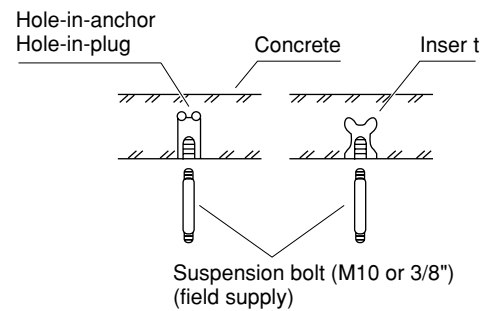

Fig. 3-115
- Insert suspension bolts as shown in Fig. 3-115
- (2) Screw in the suspension bolts allowing them to protrude from the ceiling as shown in Fig. 3-115. (Cut the ceiling material, if necessary.)